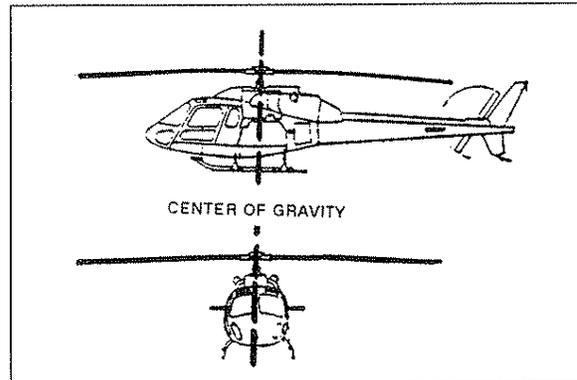

Fig. 23
Center of gravity (CG) is the point where the helicopter is in balance and most of the weight is concentrated. Draw an imaginary line through the center of the rotor mast, from the top of the mast to the bottom of the helicopter. This would be the center of gravity. (Fig. 23) Ideally, the helicopter should be in perfect balance. The fuselage will